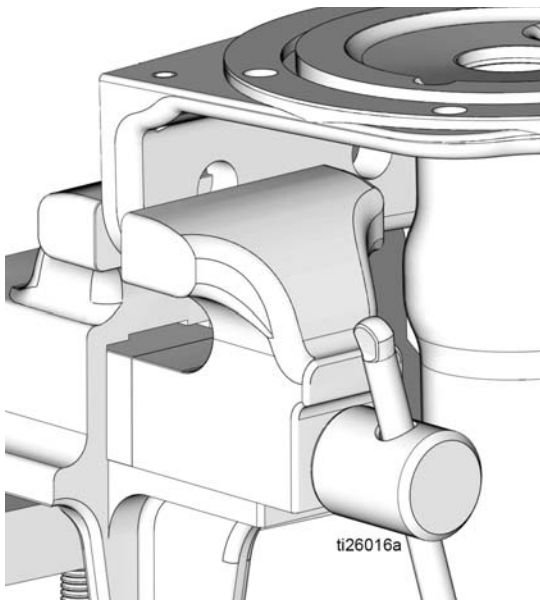

FIG. 30
1. Use a clean cloth to wipe down the pump base (1) and remove any dirt or contaminants. Inspect surface for any scratches or damage. Replace the pump if the pump base is damaged.
2. If necessary, reposition the pump base (1) in the vise as shown in FIG. 30.